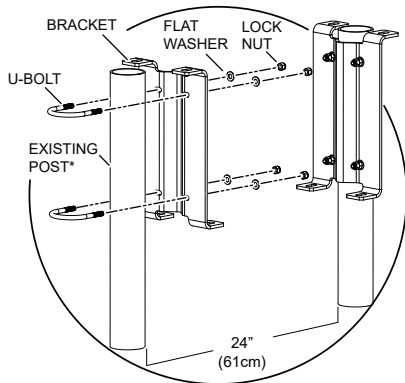

Figure 11. Brackets to Existing Posts
1. Measure distance between existing posts (inside to inside of posts) of 24 inches (61 cm). See Figure 11.
3. Secure brackets to posts using U-bolts (4), flat washers (8), and lock nuts (8). See Figure 11.